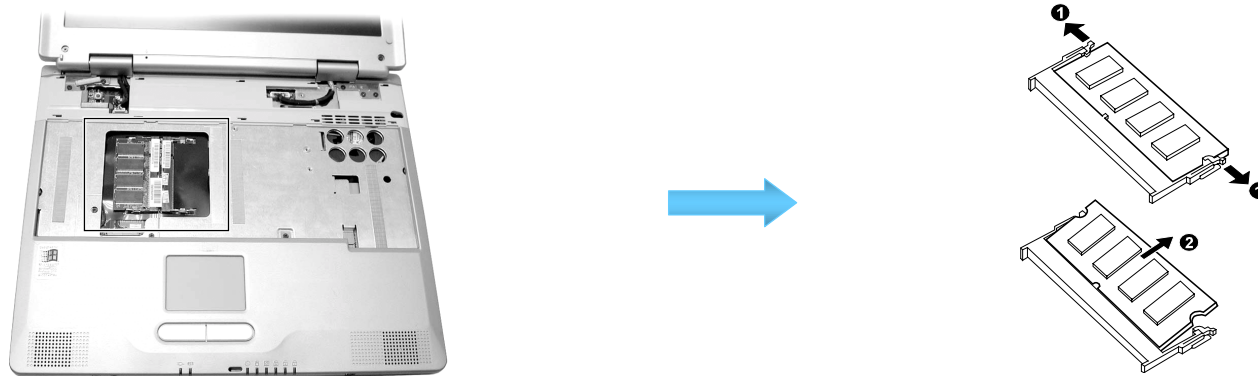

Figure 2-12 Remove the SO-DIMM
2. Full the retaining clips outwards (❶) and remove the SO-DIMM (❷). (Figure 2-12)